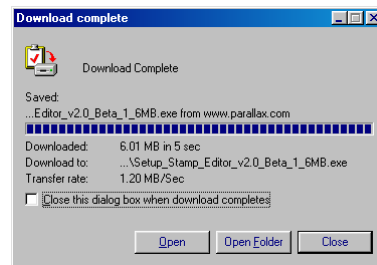

Figure 1-12
- ✓ If you downloaded the BASIC Stamp Editor Installer from the Internet, click the Open Folder button on the Download Complete window shown in Figure 1-12.